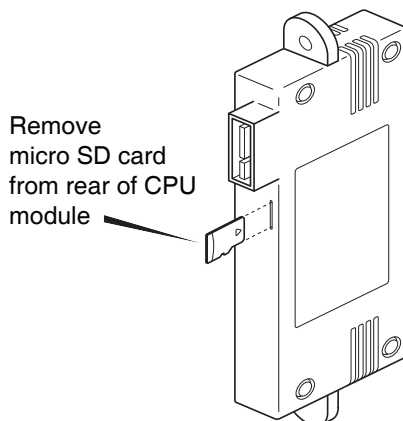

Fig 6 Removing micro SD card from plug-in CPU module
- The easiest and fastest technique is to unplug the CPU module from the Hazardous area Pageant Operator Display and remove the micro SD card as shown in Fig 6.